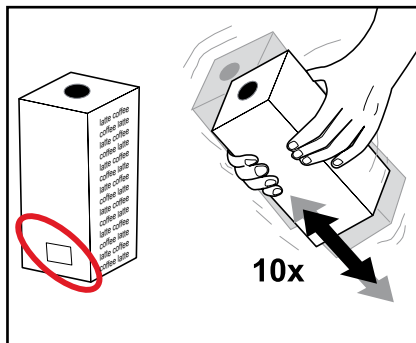

Fig. 2
- Please note the „Best before“ date printed on the packaging. (Fig. 2)
2. Shake the product pack at least 10 times before inserting it in the dispenser. (Fig. 2)